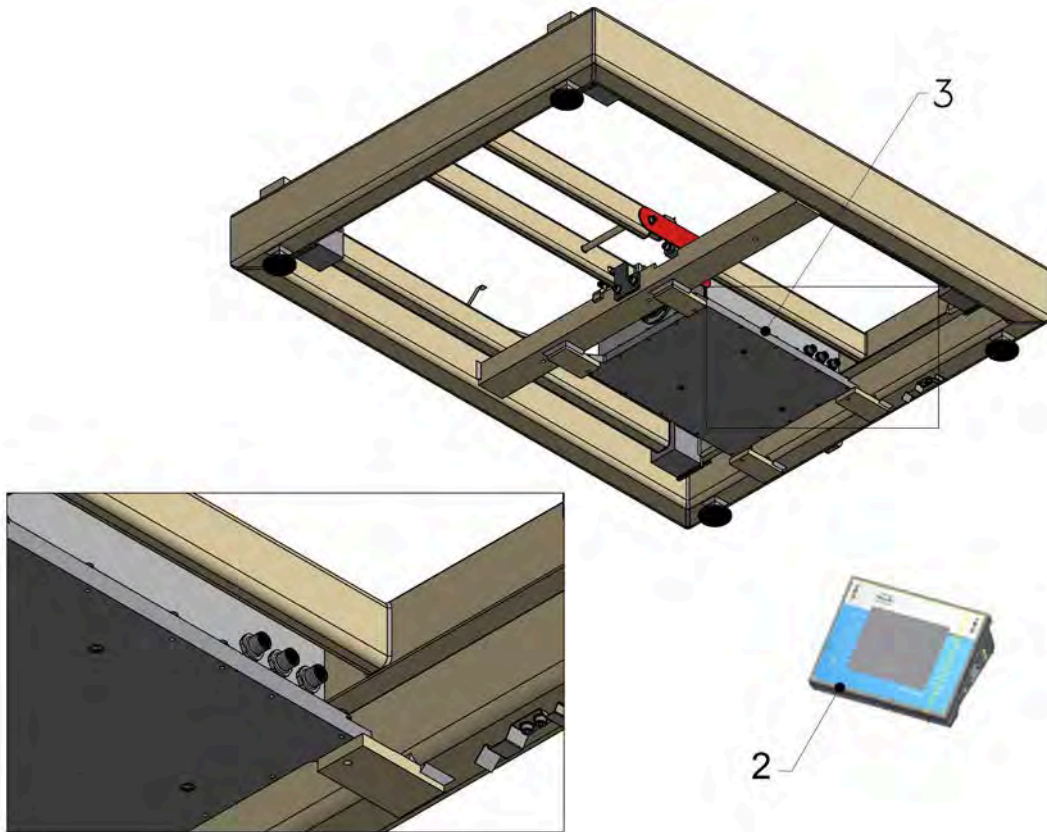

Fig.2
2. Connect terminal (2) to the weighting module (3). (Fig.2)